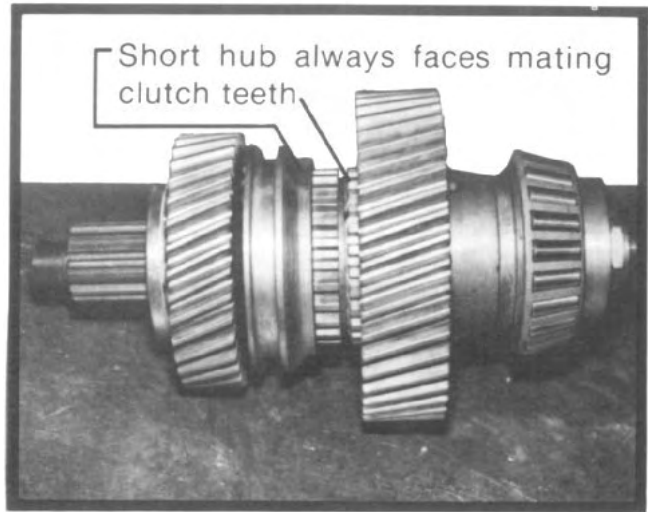

Fig. 5—TC-65 Input Shaft Assembly with Blanking Sleeve
8. The clutch collar shift fork slot is offset, which is indicated in Fig. 5. The long side can be determined by examining the collar for the external short extended hub. This short hub, referred to in the assembly instructions, must *always* face the mating gear clutch teeth, whether in the de-clutch housing, PTO housing or main case.
TC-65 & TC-80: (See Fig. 5, 6 and 7)
rear of the shaft. Slide the clutch collar onto the teeth of the clutch gear. The side of the collar with the short hub is to face the rear of the shaft (see fig. 5)
4. Slide clutch collar over the front of the shaft and over the raised teeth of the input shaft (short hub to face direct drive gear, see fig. 5). Slide spacer ring ($2\frac{1}{32}$ " thick) over front of shaft and onto the raised teeth of shaft. Slide spacer ring ($1\frac{31}{32}$ " thick) over front of shaft and onto the raised hub portion of the shaft past the splines. The inner diameter chamfer of the spacer is to face the direct drive gear.
4. Slide spacer ring ($2\frac{1}{32}$ " thick) over rear of shaft and onto the raised teeth of the shaft (not used on PTO-110). Slide clutch collar over the rear of the shaft and over the raised teeth of the shaft. Short hub side of collar (see fig. 5) to face toward where the direct drive gear will be placed.